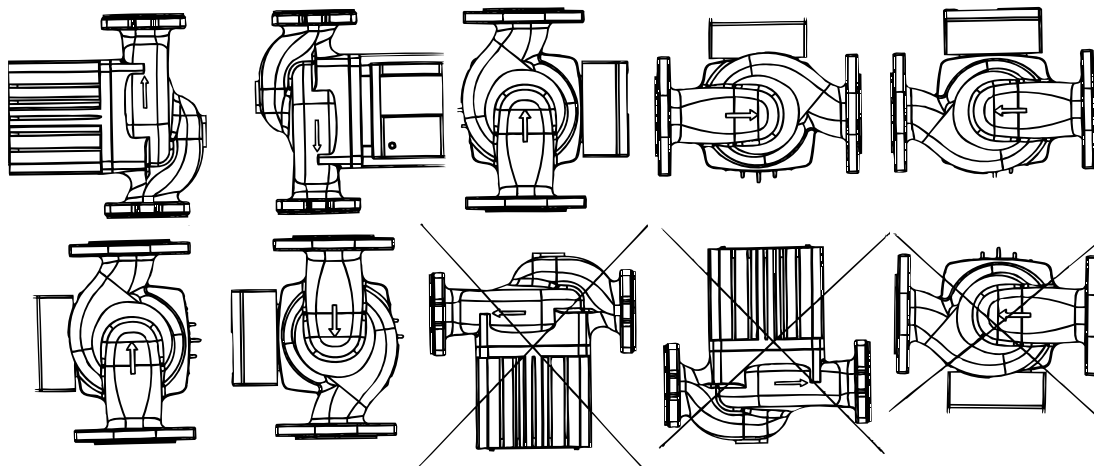

FIG. 2
The Series LR Circulator can be installed to discharge up or down, horizontally, left or right, but the motor shaft must remain in the horizontal position, the arrow on the body must point in the direction of the flow, the conduit box must be positioned on the top or to the side of the motor housing (see figure 2). If the conduit box position must be changed, it is best to do so before installation. However, if the pump is already installed, see the section titled "REMOVAL OF PUMP FROM EXISTING SYSTEM FOR REPLACEMENT" before proceeding.
1. Remove the four (4) 1/4-20 Allen screws (3/16 wrench) while supporting the motor assembly.
2. Remove the motor assembly from the pump body and rotate it to the desired position (see figure 2).